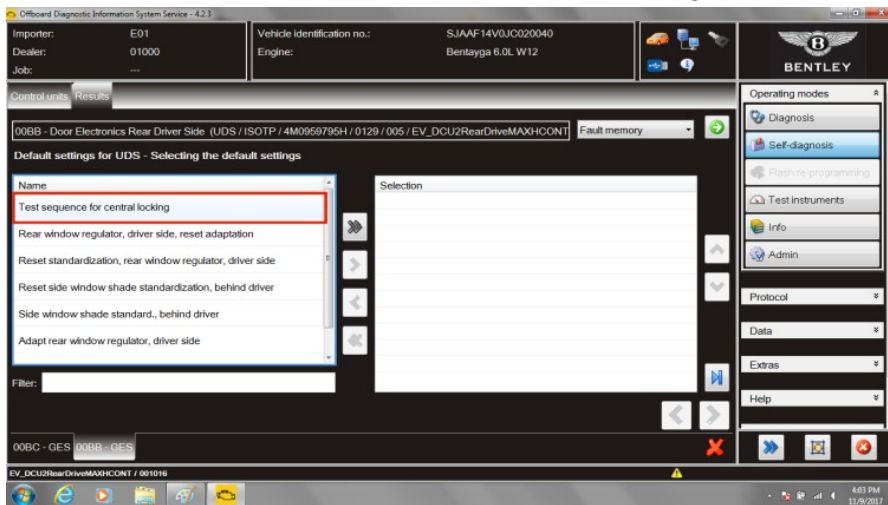

Figure 9
20. In *Default settings for UDS* double click *Test sequence for central locking* to add to *Selection* box (see Figure 9)